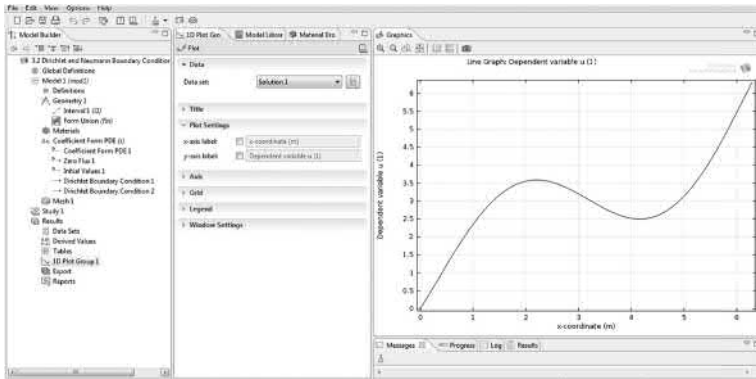

FIGURE 3.2 Solution to Equation (3.1) for the Neumann boundary condition.
- Now, go to *Study* option in the model pellet tab. Click on the *Compute* (=) button. A graph will appear giving the profile of  $u(x)$  versus  $x$  as shown in Figure 3.2.